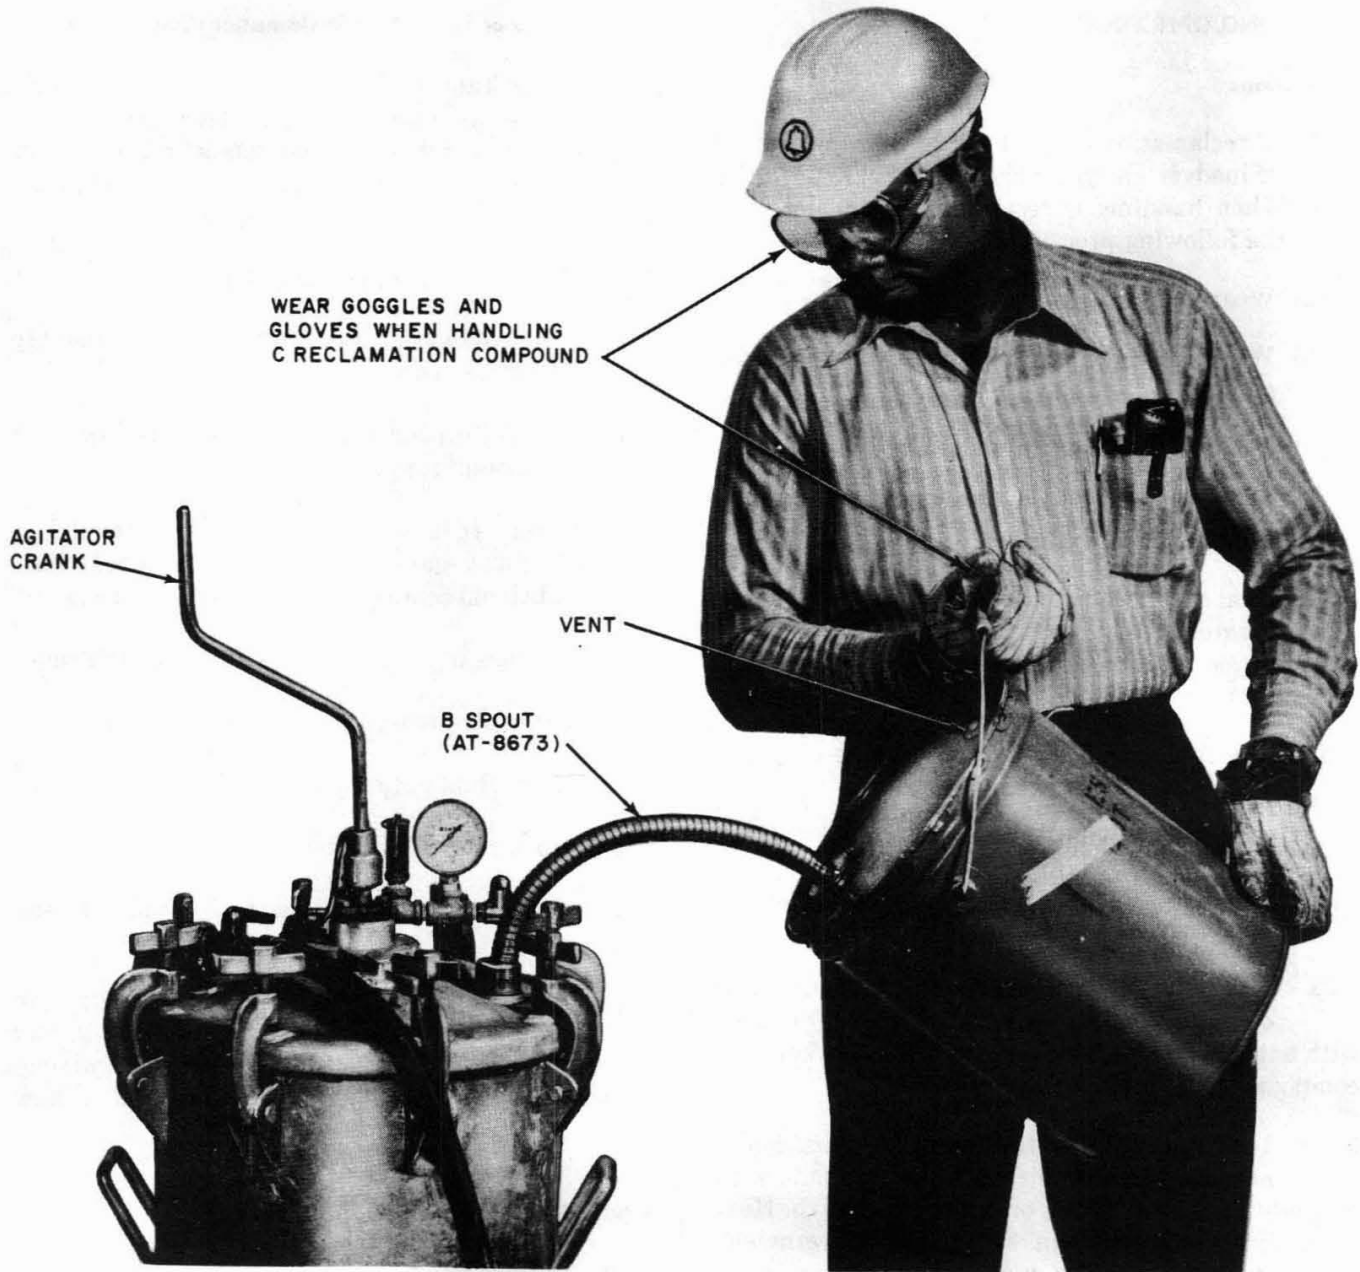

Fig. 14—Pouring C Reclamation Compound Into C Tank
- (1) Remove the filling hole cap from the tank lid.
- (2) Remove the cap and seal from the pouring hole of the Part I container and replace the cap with a flexible pouring spout. Also, vent the cover of the compound container opposite the pouring spout by punching holes in it.
(3) Carefully insert the flexible pouring spout into the tank filling hole and pour the Part I liquid into the tank (Fig. 14).
(4) Repeat Steps (2) and (3) for Part II.
(5) Replace the filling hole cap on the tank lid.
(6) Place the agitator crank handle on the agitator shaft projecting through the center of the tank lid.